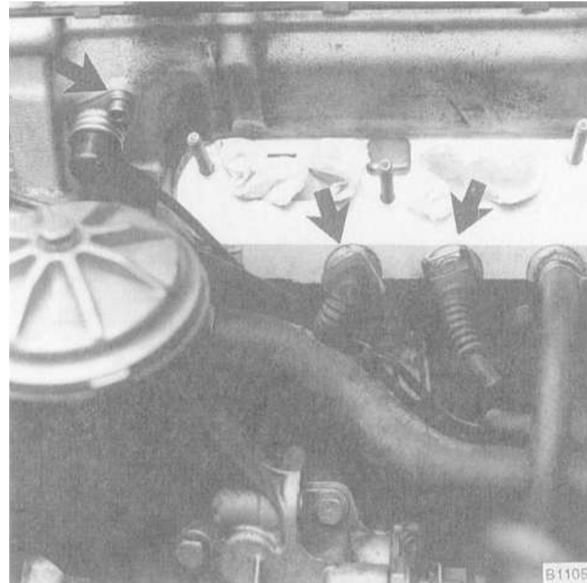

Fig. 16. Harness connectors to be disconnected (arrows)
19. Disconnect the cylinder identification sensor, coolant temperature sensor, and the temperature gauge sender connectors shown in Fig. 16.